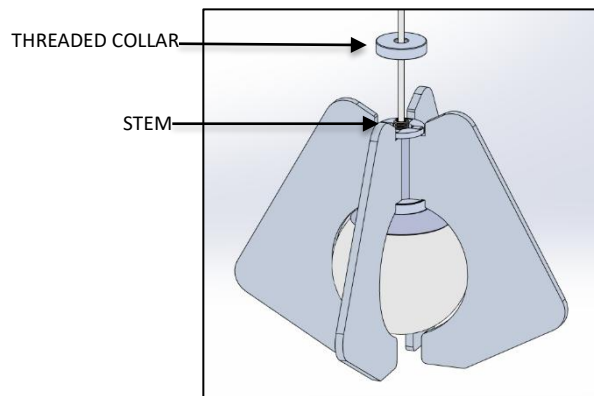

FIG. 42 – ACOUSTIC FIN INSTALLATION
34. With all ACOUSTIC FINS slotted into the lower ACOUSTIC HOLDER, insert the ACOUSTIC FIN tabs into the upper ACOUSTIC HOLDER as shown in FIG. 42. Ensure all fins are properly slotted into place and then screw on THREADED COLLAR onto STEM.